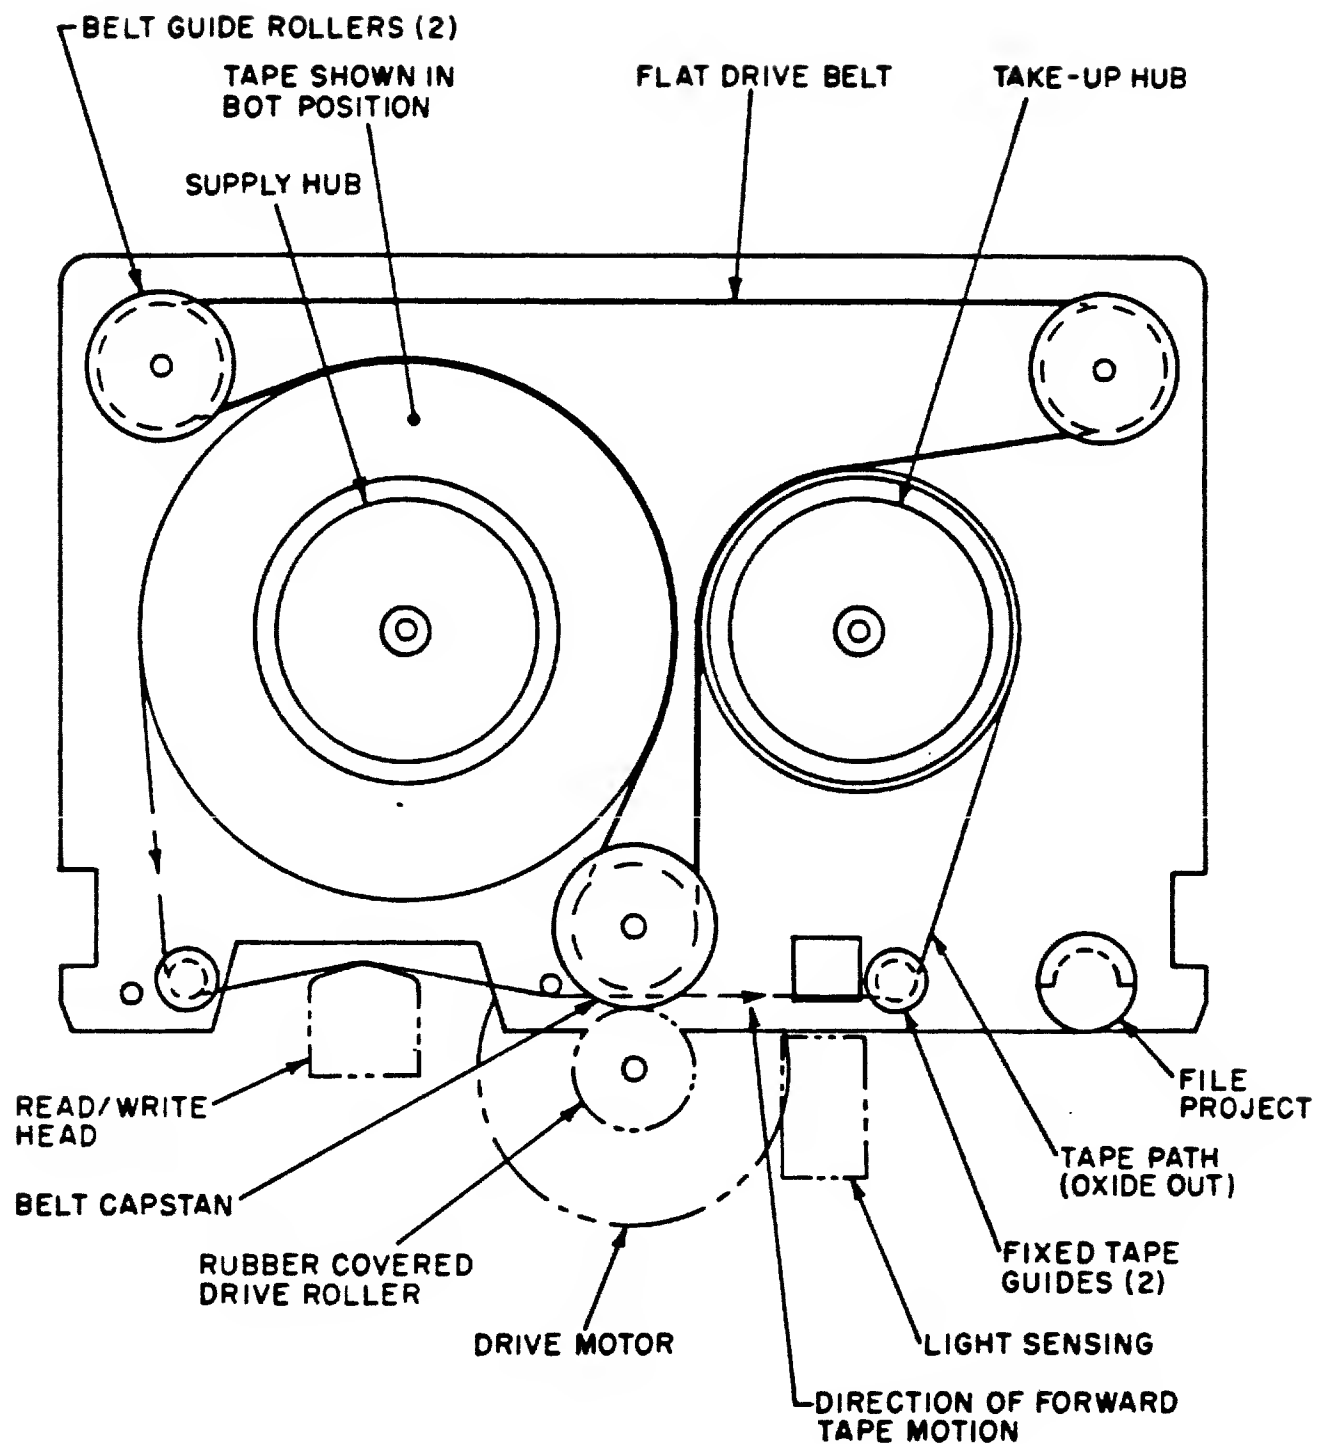

Fig. 1
2.1 Magnetic Tape Cartridge. A magnetic tape cartridge refers to a cartridge containing 0.250-inch (6.30-mm) wide magnetic tape wound on two coplanar hubs with an internal drive belt to transport the tape between the hubs (see Fig. 1).